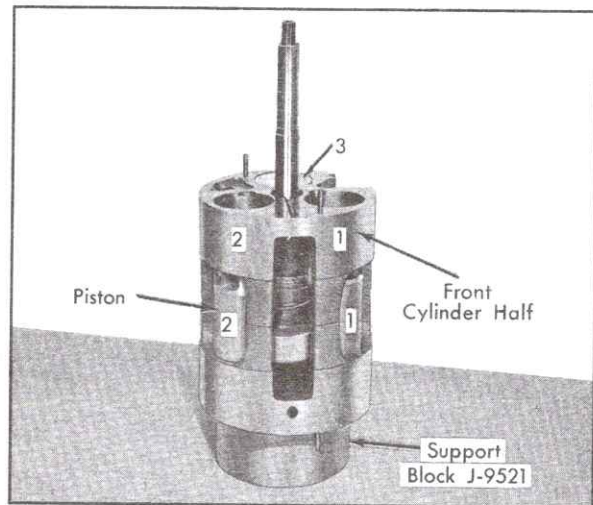

Fig. 1-50 Numbering Pistons & Cylinder Bores
2. Identify by a pencil mark, or some other suitable means, each piston numbering them 1, 2, and 3, Fig. 1-50. Number the piston bores in the front cylinder half in like manner so that pistons can be replaced in their original locations.